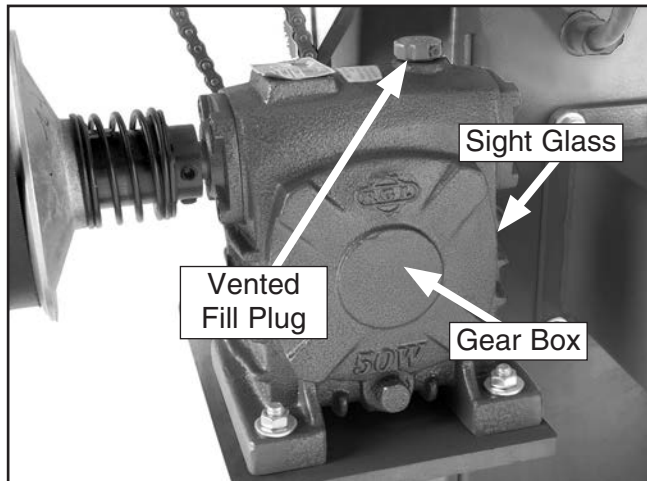

Figure 19. Typical vented fill plug (sight glass not shown).
1. Check the sight glass shown on the back of the gear box to make sure gear oil is present, as shown in **Figure 19**.